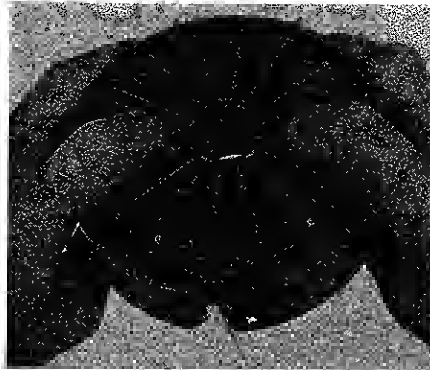

FIGURE 12
- C. Push out the spool by applying pressure with your fingers through the two holes located on top of the hub. Figure 12